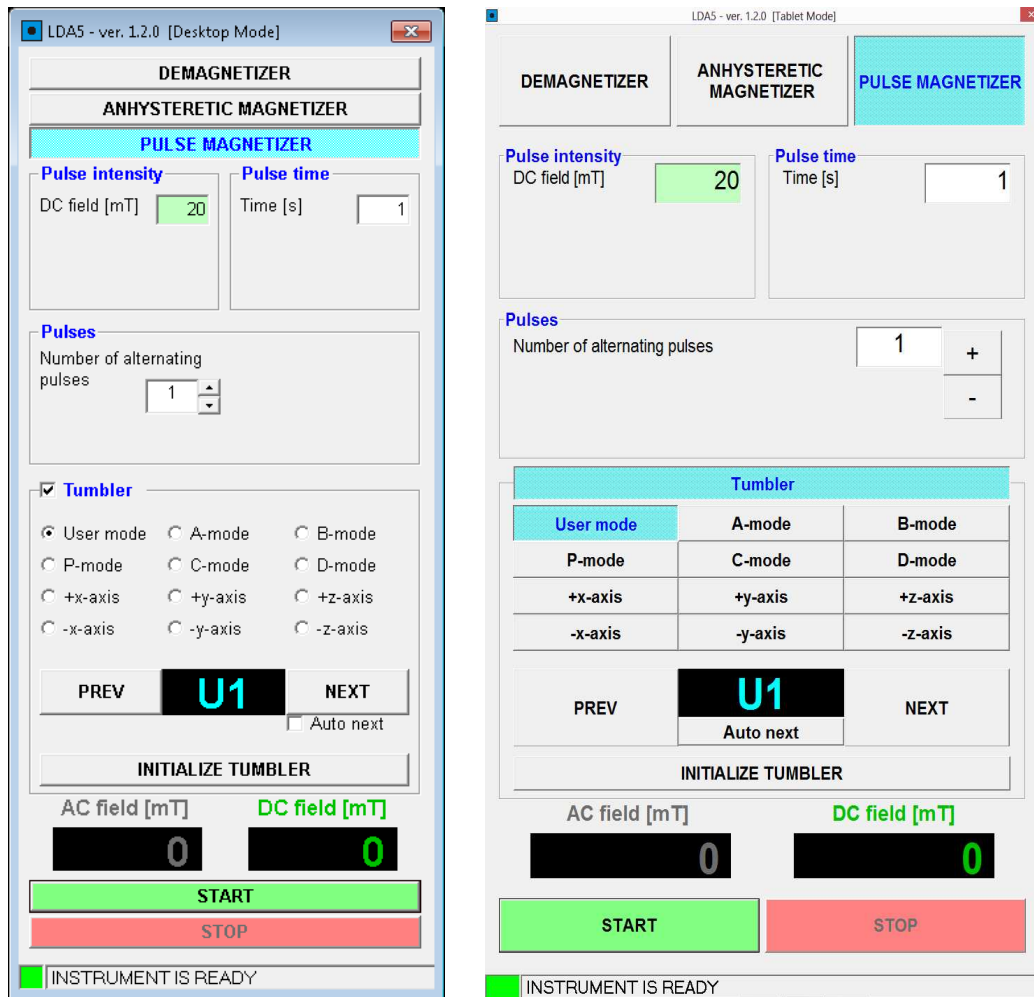

Figure 11: An example of the **PULSE MAGNETIZER** user interface in the Desktop or Tablet installation modes.
Switch the instrument into the **ANHYSERETIC MAGNETIZER** mode (Section 5.2) and set the desired magnetization parameters (Figure 11):
8. **AC field** is increased to its maximum amplitude, AC_{\max} , maintained constant for a desired time, and then gradually decreased to zero (Figure 7). The current **AC field** amplitude is displayed in the **RED** panel and the current **DC field** intensity in the **GREEN** panel of the user interface (Figure 11).
7. The **DC field** is switched ON¹². The current **DC field** intensity is shown in the **GREEN** panel of the user interface (Figure 11).